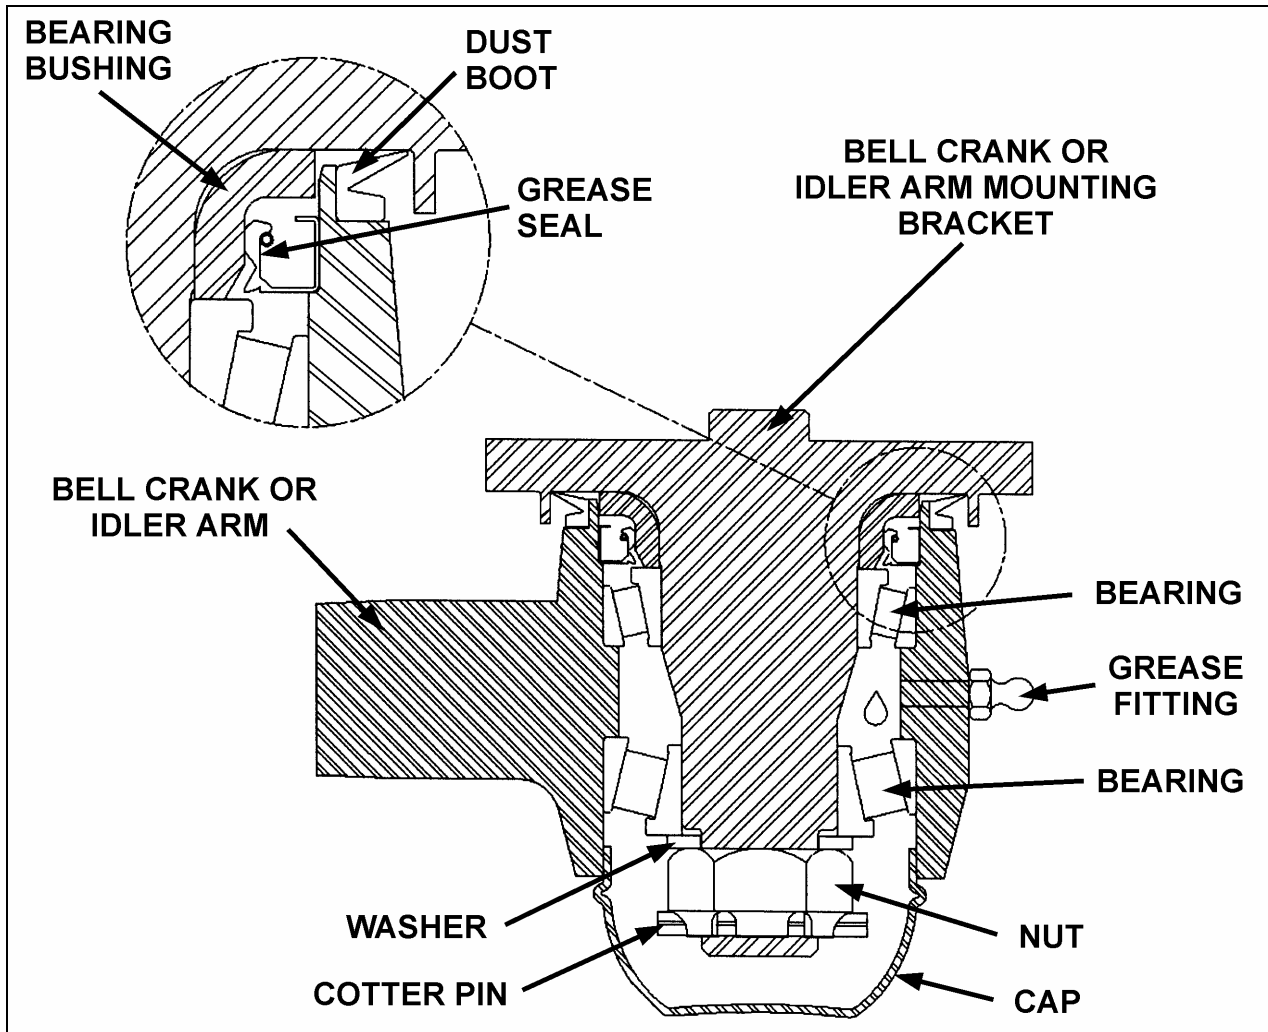

FIGURE 13: BELL CRANK AND IDLER ARM
2. Remove the cap (Fig. 13).
3. Remove the cotter pin, nut and tongue washer. Remove bearings, grease seal, bearing bushing and the bell crank or idler arm from its mounting bracket stud (Fig. 13).
2. Install bearing and grease seal in bell crank or idler arm eye (Fig. 13).
3. Install bell crank or idler arm on its mounting bracket stud (Fig. 13).
Note: Bend cotter pin around the nut (Fig. 13). Do not bend the cotter pin in the direction of the cap, because it may interfere with the cap.